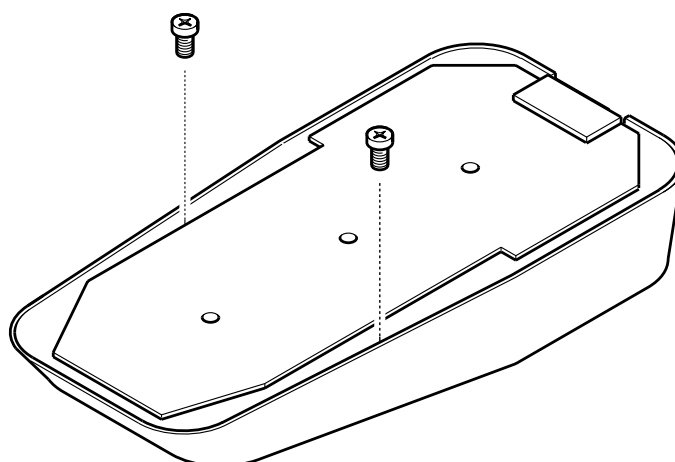

Figure 15: Screw removal
- Figure 15 Remove the Charge Assembly mounting screws.